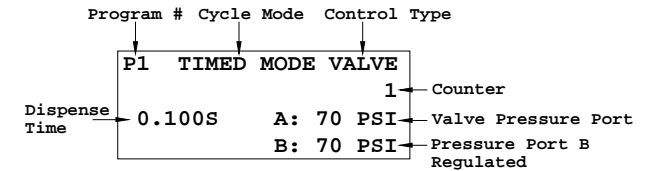

Figure 3.0
4. Press the Mode (2) and Set button (3) simultaneously until "VALVE" appears on the top right hand corner of the Display as shown in Figure 3.0